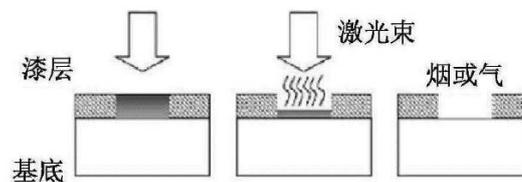

Figure 2.1. Schematic diagram of high temperature gasification and decomposition of laser-induced fouling
2.1.1 Using pulsed Q-switching technology, the energy of the laser can be highly concentrated in time and space, and a high temperature of thousands of degrees Celsius can be generated near the focus of the laser beam, causing the dirt to evaporate or gasify and decompose in an instant, as shown in Figure 2.1 below.